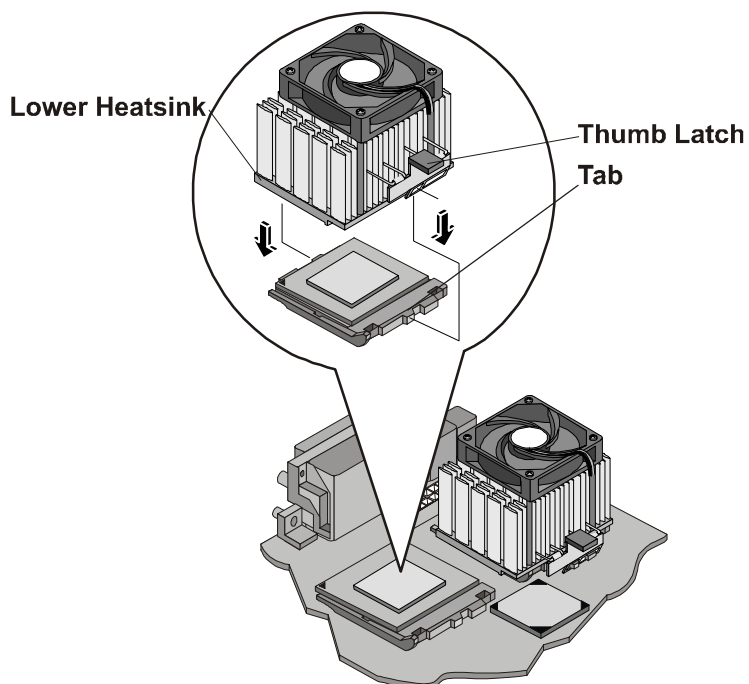

Figure 3-19. Installing Heatsink
- b. Rotate the heatsink back, placing it squarely on top of the processor and connect the thumb latch to the tabs on the base of the processor socket on the side shown in Figure 3-19.
4. Connect the heatsink's cooling fan connector to the 2nd cooling fan connector (CPU 2 Fan) on the system board. See Figure 3-19.